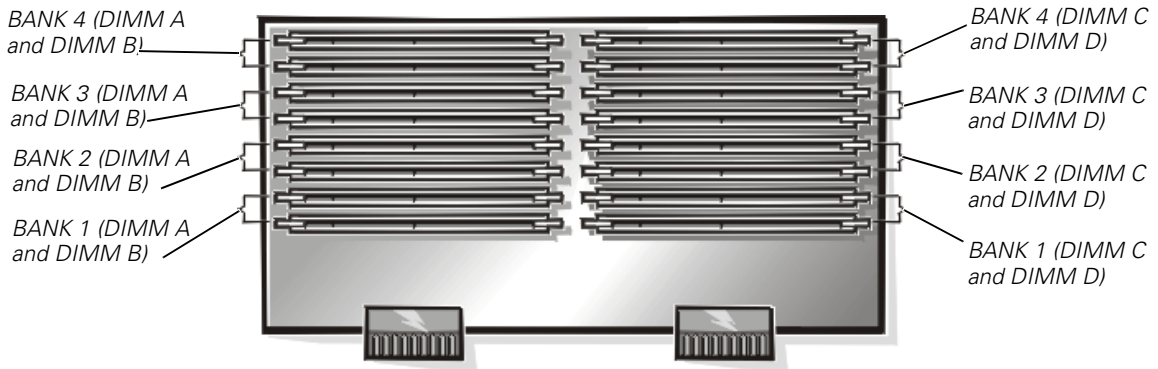

Figure 8-5. DIMM Sockets
The 16 dual in-line memory module (DIMM) sockets on the memory board (see Figure 8-5) can accommodate 256 megabytes (MB) to 8 gigabytes (GB) of 3.3-V registered DIMMs.
Figure 8-5 shows the relative location of the DIMM sockets on the memory board.